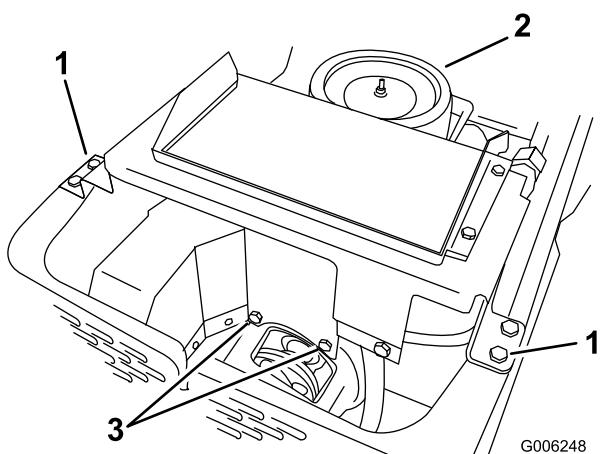

Figure 1
2. Remove the 4 bolts holding the oil cooler to the frame of the machine (Figure 1).
3. Remove the 2 bolts and lockwashers from the heat shield attached to the pump mount (Figure 1). Retain these for installing the new heat shield.